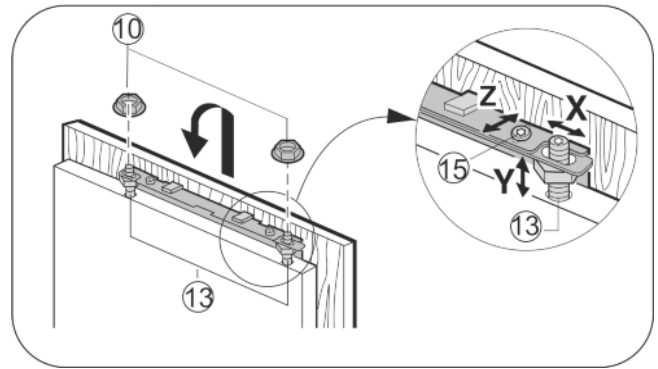

Fig. 29
- ▶ Attach the unit door on the adjusting bolts Fig. 29 (13) and loosely screw locknuts Fig. 29 (10) onto the adjusting bolts.
- ▶ To align the unit door in the Y direction (height) and in lateral inclination: Adjust the adjusting bolts Fig. 29 (13) with a screwdriver.
- ▶ Tighten the locknuts Fig. 29 (10).